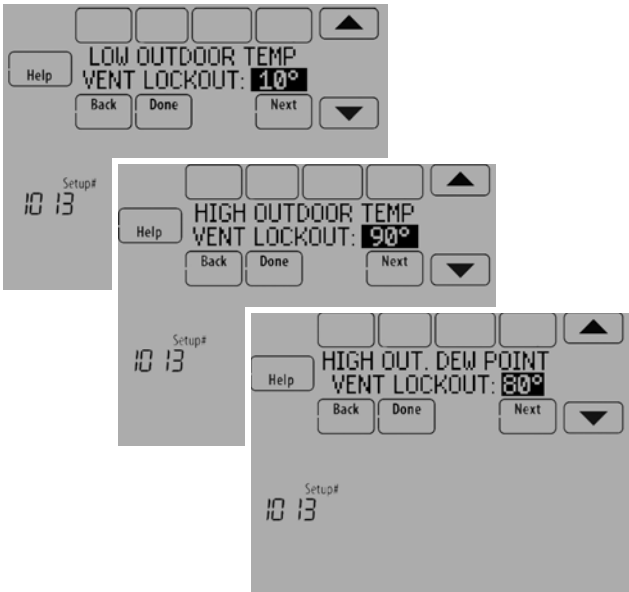

Fig. 234.
- 9. Select the Outdoor Condition Lockouts. See Fig. 234. See “Ventilation – Outdoor Condition Lockouts (ISU 1013)” on page 93 for more information.